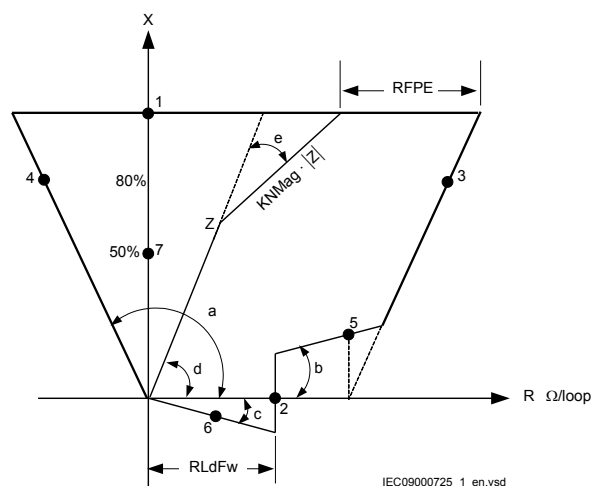

Figure 10: Distance protection characteristic with test points for phase-to-earth measurements
Table 3 is used in conjunction with figure 10.
4. Repeat steps 1 to 3 to find the operating value for the phase-to-earth fault L3-E according to figure 10 and table 3
3. Repeat steps 1 to 2 to find the operating time for the phase-to-earth fault according to test point 7 in figure 10 and table 3. Compare the result of the measurement with the setting t_{IPE} .